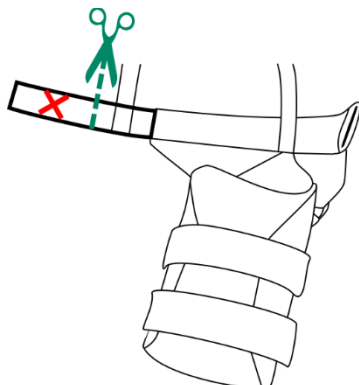

Figure 11
2. The upper arm cuff should fit loosely around the upper arm and should not obstruct blood flow, even when the biceps is contracted. Consider (thick) clothing as well. As a general guideline, add 2 cm to the measured circumference. Cut off the excess from the band (Fig. 11).